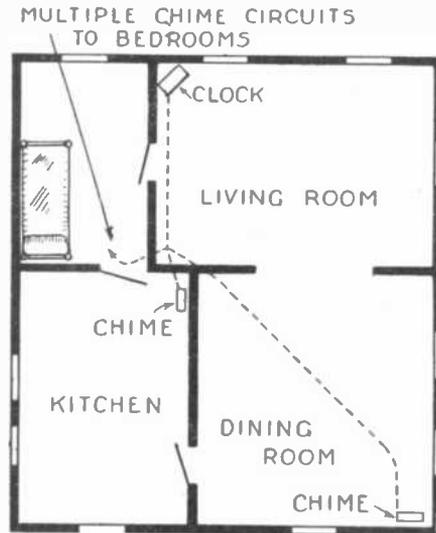
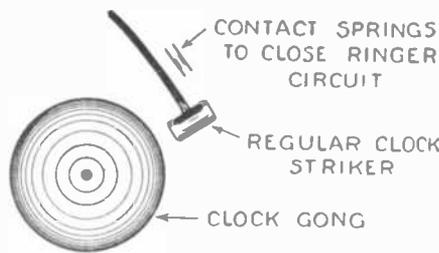

FIG. 6
FIG. 7
Fig. 6 gives an idea for an electric chime circuit ringing arrangement whereby the circuits may branch around the house to a set of electrically rung chimes in each room, or
Where the hour is to be struck with the number of beats corresponding to the hour, the regular gong hammer or clapper on the clock may be caused to close a pair of contact springs, as shown above in Fig. 7; moving the gong so that the hammer cannot strike it, or the hammer may be bent. The contact springs come from an old radio or telephone jack.
Fig. 7 shows how a pair of contact springs, such as those from telephone or radio jacks, may be placed in position so as to close the circuit each time the regular clock striking hammer operates. Some people will be satisfied perhaps to have a different tune played for each quarter hour, judging the time sufficiently close in this way. Others no doubt would prefer to use a fifth chime, or else one of a set of four for striking the number of beats corresponding to the hour just after the tune is finished. The regular clock gong should be removed, or else the striking hammer may be bent so that it does not reach the gong if the time is to be struck
holes drilled in pairs in the gong for the dippers; each pair are about $\frac{3}{4}$ inch from the adjoining pairs, making from 18 to 22 pairs of $\frac{1}{8}$ -inch holes drilled radially around the whole surface. Each set of holes are $\frac{1}{8}$ inch from either end, looking at Fig. 7 horizontally. Also on the outer surface there is a hole drilled of about $\frac{3}{8}$ -inch diameter. In the diagram Fig. 7 (C) shows this hole, and as shown the dippers on each side should have a surplus of the zinc or iron as represented in (B) and (C), Fig. 8.
It will be seen that in the center of the gong there is a hole about $\frac{1}{4}$ -inch diameter. On each side about $\frac{1}{8}$ -inch distant are two more $\frac{1}{8}$ -inch holes directly opposite each other. Two more $\frac{1}{8}$ -inch holes should be drilled at right angles to the ones already there to conform with Fig. 7 (D). The shaft which consists of a steel rod 5-inch
Fig. 5 shows the generator carried on a bracket attached to the side of the water motor. Fig. 6 gives the general layout or hook-up for charging a storage battery. Figs. 7 and 8 show the gongs drilled for the reception of the dippers and also the dippers in place.
The diagram shows practically how the water motor and the dynamo are made, and indicates the materials needed. For fear some points are not clearly understood, I will explain them in full. A gong is used as the basis of the motor wheel. The gong to be used is the kind found in alarm clocks of the Big Ben style and should be at least 5 inches in diameter with the outer surface $\frac{3}{4}$ inch wide. Fig. 7 (C) shows the $\frac{1}{8}$ -inch
The dippers should be made of heavy sheet zinc, copper, or galvanized sheet iron; in Fig. 7 (E), (F) and (G) shows how they are made. The curved part is made with a ball peen hammer or with a round head bolt. Dippers (B) and (C) in Fig 8 should be $\frac{1}{4}$ -inch longer than the others as explained above so that the rotor will be evenly balanced. It is impossible to get perfect results, unless the rotor is evenly bal-
long and 1/4-inch in diameter should be brazed to a piece of round brass stock 1-inch in diameter and 1/2-inch long. Five holes are drilled in the brass rod as shown in Fig. 7 (A). The center hole is 1/4-inch in diameter and the smaller ones are 1/8-inch in diameter and should be drilled 1/8-inch from the center hole to conform with the holes in the rotor as shown in Fig. 7 (D). It is then screwed to the rotor with brass screws and nut 3/4-inch long with 6/32 thread; thus the rotor is finished.